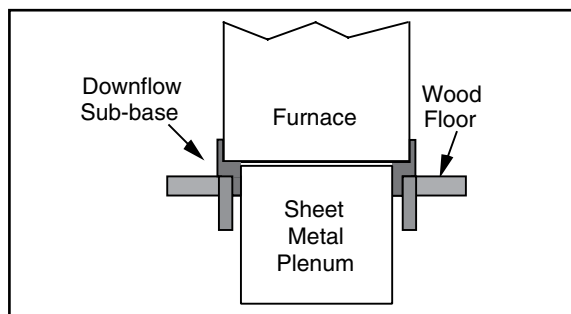

Figure 2. Furnace on a Wood Floor
4. Place furnace on the combustible base as shown in Figure 2.